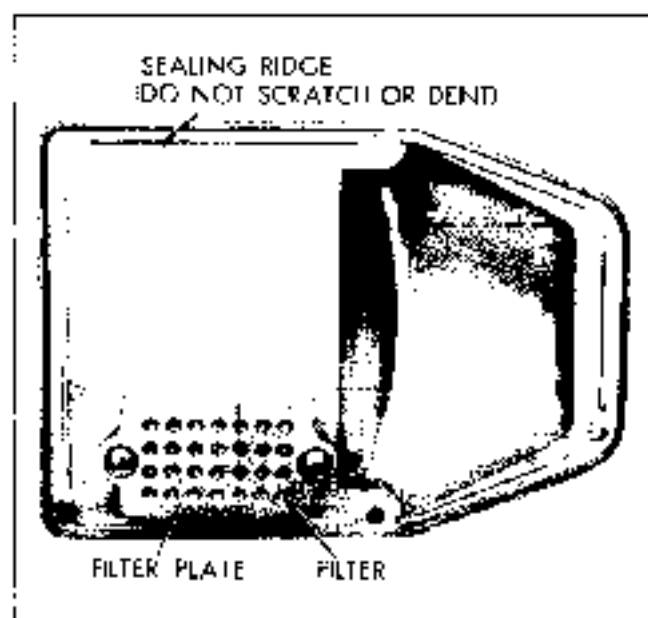

Fig. 15-5 Cover and Inake Filter Assembly
1. Remove screws and cover. To replace air filter in cover, push filter out from under filter plate (Fig. 15-5).